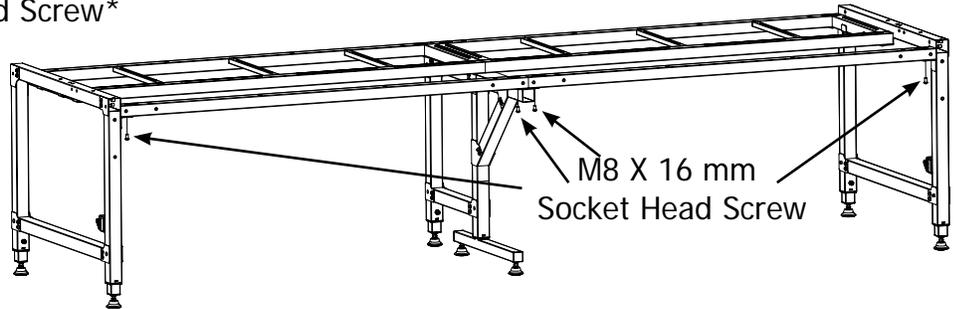

Fig. 6.1
6-1: With assistance, tilt the Table into a standing position. Now place (2) Front Bars at the front of the frame with the slotted holes on top, and attach to the frame using (4) M8 Socket Head Screws, as shown in Fig. 6.1.